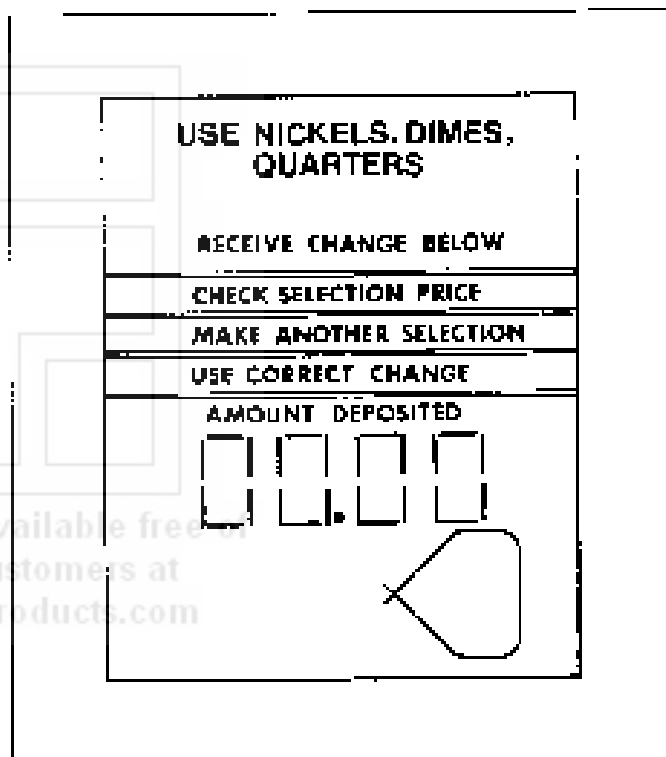

Figure 14.
- B. Press button 11 on the selection panel and the Display will show "00.00" (Figure 14) along with three audible beeps will be heard. This is the price display and can be incremented up by pressing button 11 and down by pressing button 12. Increments are 5¢ and each increase will produce one audible beep.